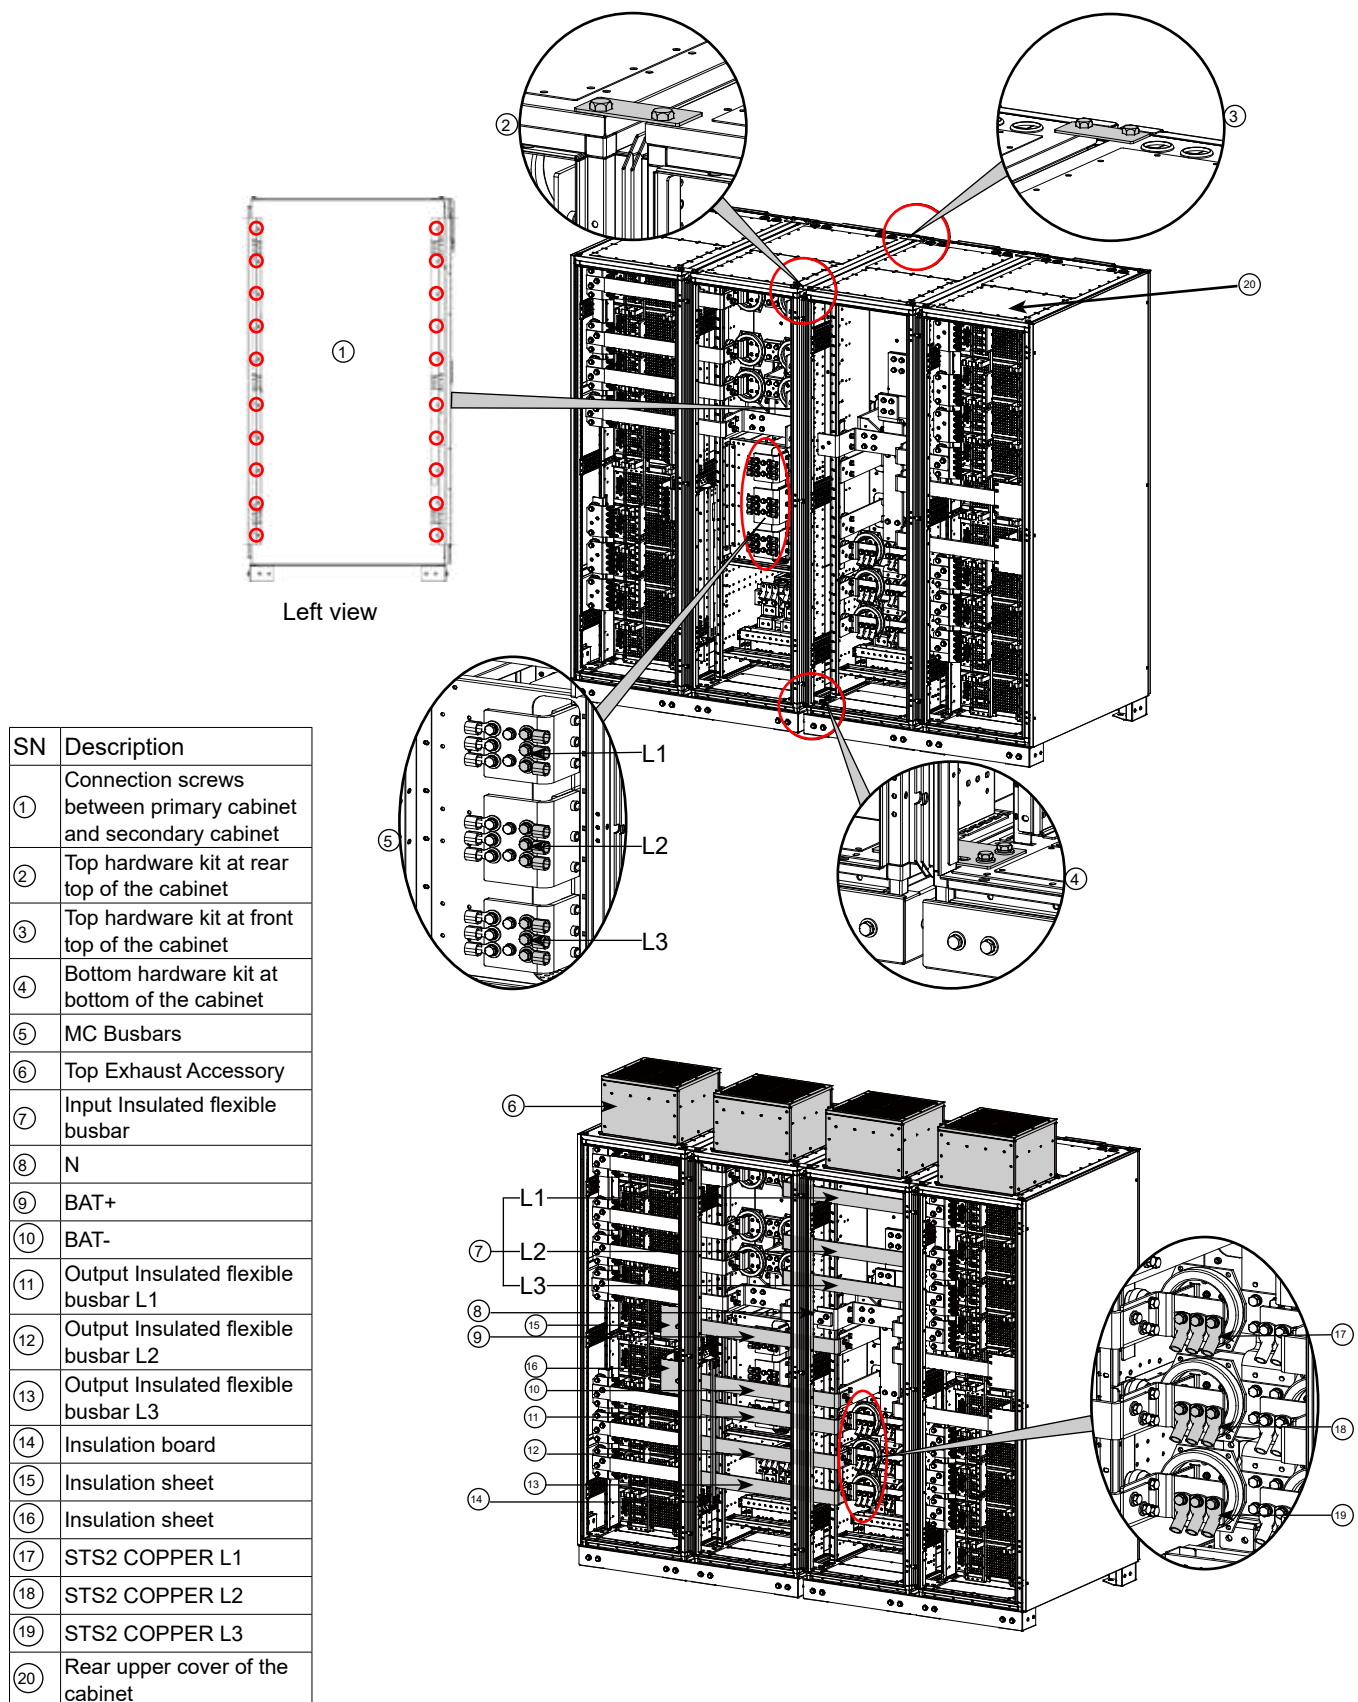

Figure 4-13: Mechanical Installation Instructions
See Figure 4-13 ① for the screw location;
See Figure 4-13 ②③ for the location of the top hardware kits;
See Figure 4-13 ④ for the location of the bottom hardware kit;
See Figure 4-13 ⑤ for the location of the busbars position.
See Figure 4-13 ⑭ for the location of the insulation board.
See Figure 4-13 ⑦ for the location of the input insulated flexible busbars.
See Figure 4-13 ⑧ for the location of the N insulated flexible busbar.
See Figure 4-13 ⑨⑩ for the location of the BAT+/BAT- insulated flexible busbars.
See Figure 4-13 ⑪⑫⑬ for the location of the output insulated flexible busbars.
See Figure 4-13 ⑮⑯ for the location of the insulation sheet.
See Figure 4-13 ⑰⑱⑲ for the location of the busbars.
See Figure 4-13 (20) for the location of the rear upper covers/
See Figure 4-13 (6) for the location of the top exhaust accessories/